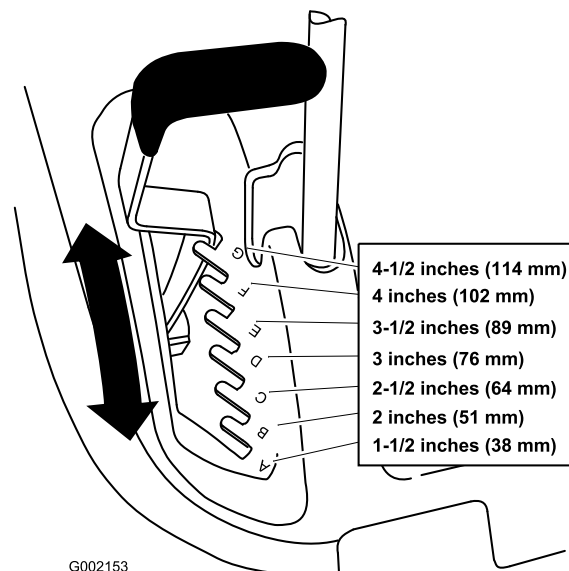

Figure 12
1. Raise the height-of-cut lever to the transport position (also the 4-1/2 inch (114 mm) cutting height position (Figure 12).
2. To adjust, pull up on the height-of-cut lever and move it to the desired position (Figure 12).